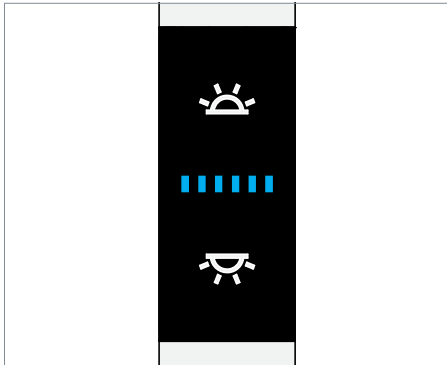

Fig. 13: Operating element.
- ▶ Press the upper switch, see Fig. 13.
- ▶ Press the lower switch, see Fig. 13.
- ▶ Press the upper switch and keep it depressed, see Fig. 13.
- ▶ Press the lower switch and keep it depressed, see Fig. 13.